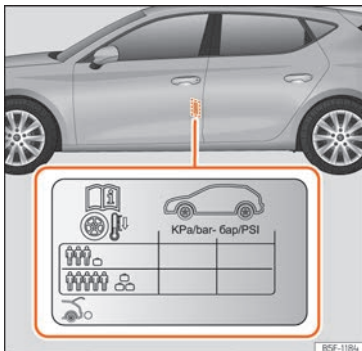

Fig. 240 Location of the tyre pressure sticker.
- Adjust tyre pressure to the load being carried by the vehicle »» Fig. 240.
The tyre inflation pressures are listed on a sticker on the rear of the front left door frame »» Fig. 240.
The tyre pressure must be adjusted according to the load the vehicle is carrying. If the vehicle is going to carry the maximum load, the tyre pressure should be increased to the maximum value indicated on the sticker »» Fig. 240.
In the case of a minimised temporary spare wheel (125/70 R16 or 125/70 R18), inflate to a pressure of 4.2 bar as indicated on the tyre pressure label »» Fig. 240.
- The driver is responsible for ensuring that all of the vehicle tyres are correctly inflated to the right pressure. The recommended tyre pressure is indicated on the label »» Fig. 240.
- When the tyres are cold, tyre pressure should be that indicated on the label »» Fig. 240.